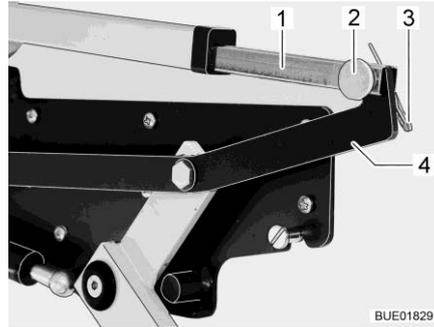

Fig. 142 Drive for the pull-down bed
- Release the connection between the push rod (Fig. 142,1) and lever (Fig. 142,4). To do this, pull out the splint (Fig. 142,3) and pin (Fig. 142,2).